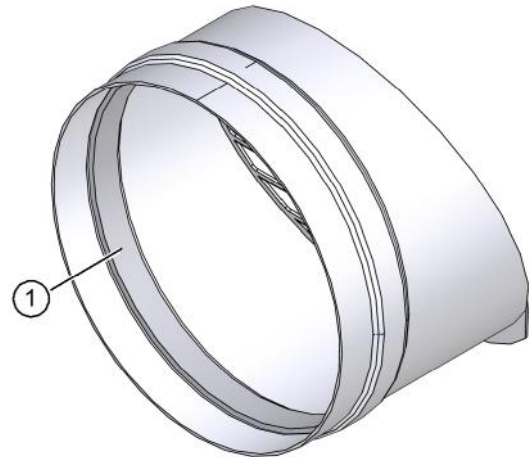

Fig. 14: Applying Vaseline to black sealing tape
- ▶ Apply the Vaseline provided to the black sealing tape on the insides of the two outer wall terminals (see item 1 in Fig. 14).